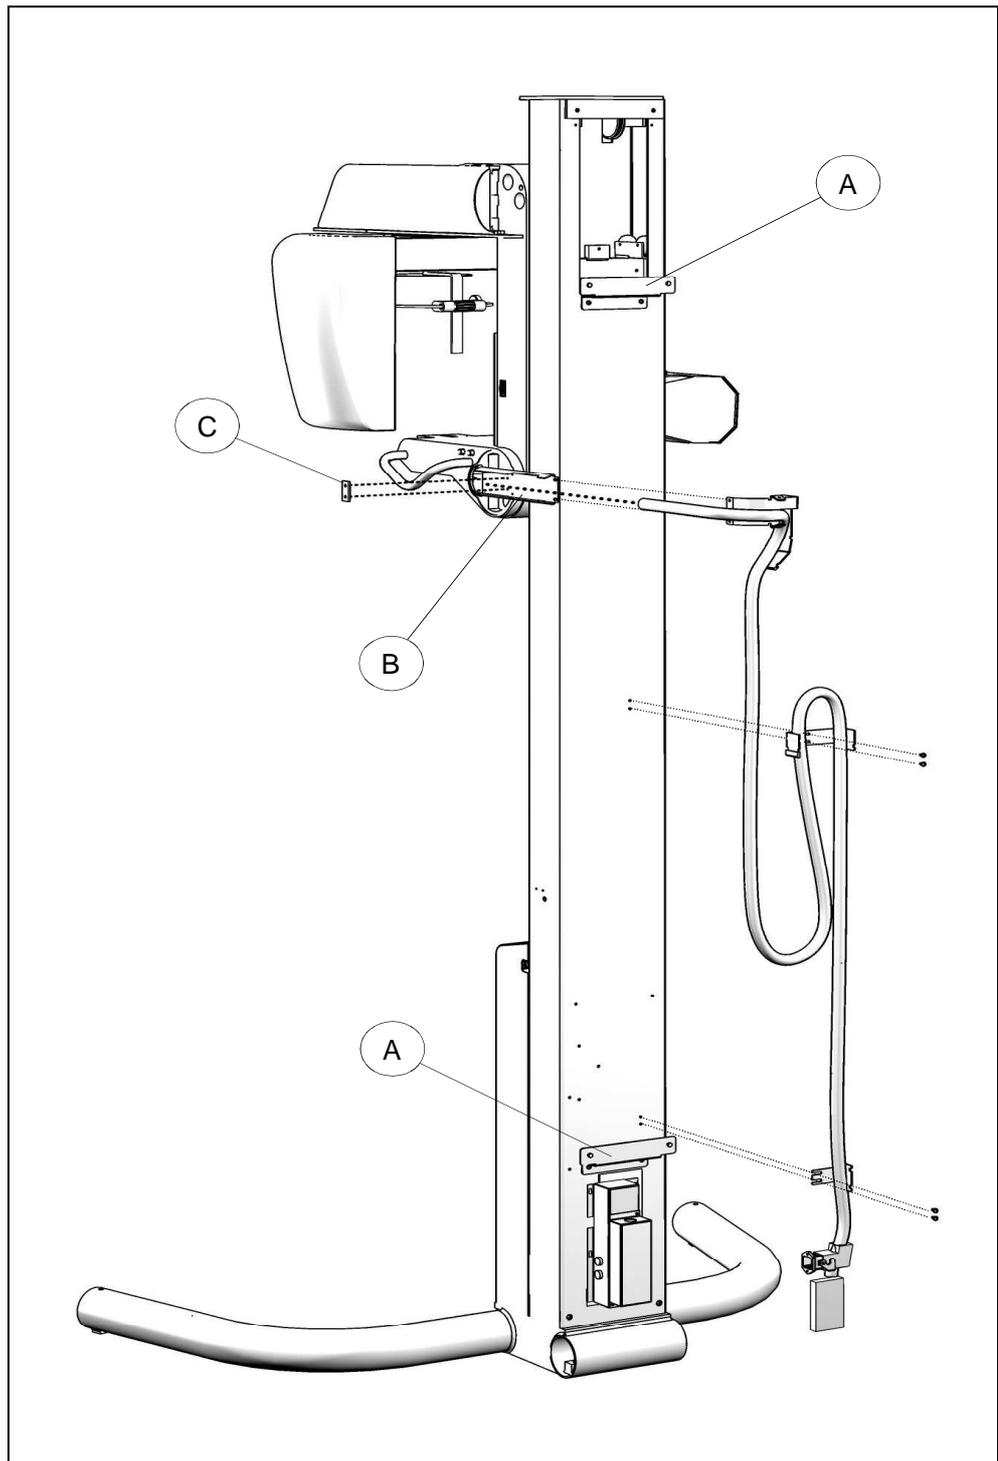

Figure 6-7
14. Install the two brackets "A" (code 5608100300) and the cable support bracket "B" (supplied inside the relevant cover) (Figure 6-7).
15. Fix the cables routing it as shown in Figure 6-7. The upper connectors have to enter inside the chin support through the relevant hole. Fix the cable to the bracket "B" using the plastic plate "C" (code 5608500600).